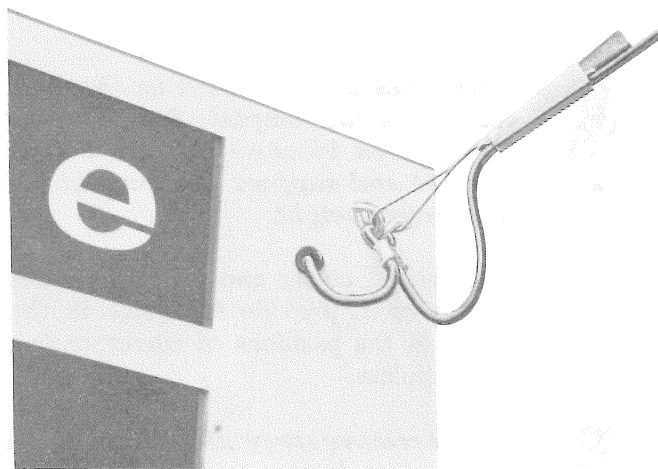
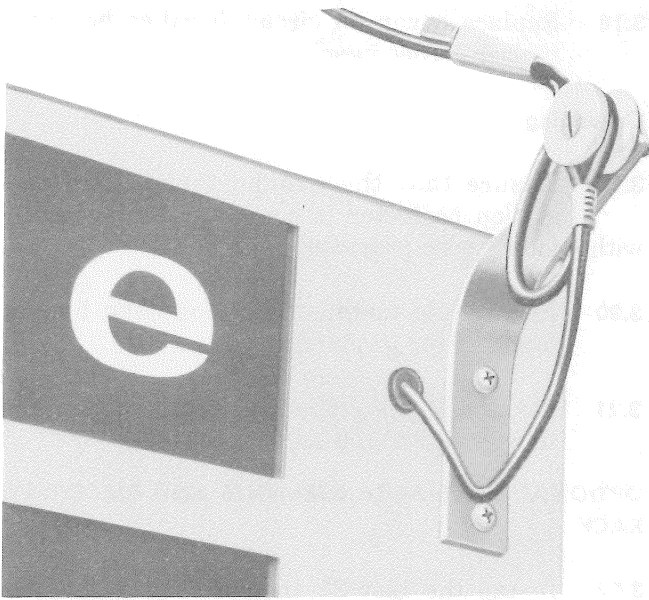

Fig. 15—Drop Wire Hook for First Attachment
Fig. 16—Corner Bracket for First Attachment
3.06 Attach drop wire hook (Fig. 15) or corner bracket (Fig. 16) (whichever is required) on right rear column adjacent to the entrance hole as follows:
- (1) Secure drop wire hook (Fig. 15) to clinch nut (provided with booth) using one 1/4-20 by 3/4 FHM screw, one 1/4-inch flatwasher, and one 1/4-inch lockwasher.
- (1) Secure the corner bracket (Fig. 16) to the threaded clinch nut using one 1/4-20 by 3/4 Phillips RHM screw.